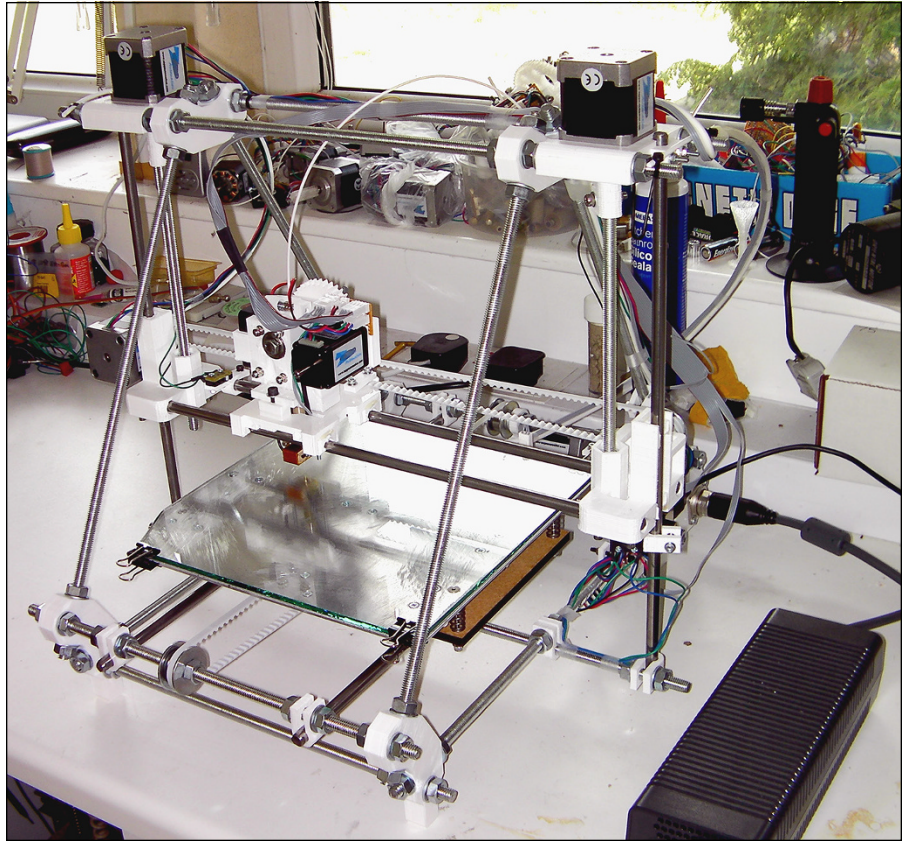

FIGURE 11-6:
- » **Prusa Mendel:** The most widely constructed and widely used RepRap 3D printers are the Prusa Mendel and its many derivatives. (A modified Prusa Mendel is shown in Figure 11-6.) This machine, designed by Josef Prusa, is a simplified version of the original Mendel design that proved to be highly popular. Version 2 of the Prusa Mendel is still built today and is highly recommended as a first machine.